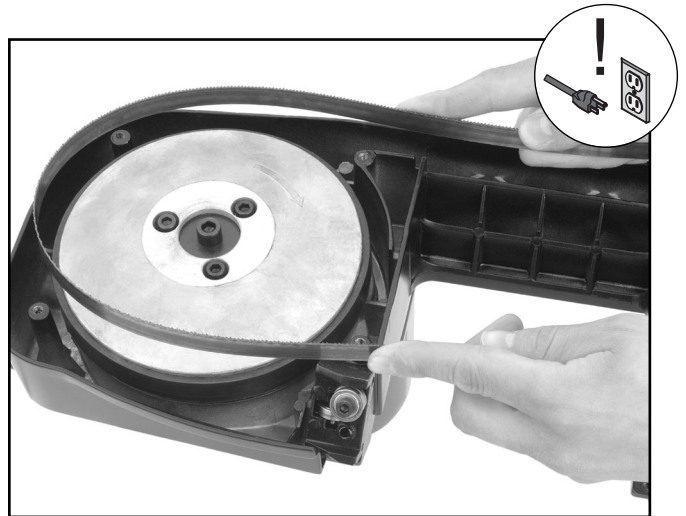

Figure 11. Installing blade.
7. Place one end of the new blade over the drive pulley of the bandsaw (Figure 11).